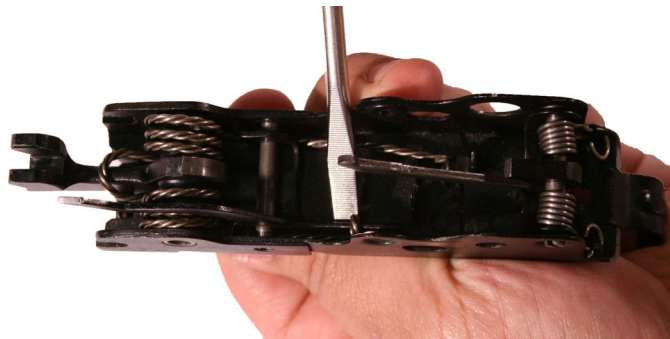

Figure 3. Lifting the Short Leg of the Main Spring off of the Safety Sear.
3. Place a finger over the hammer and pull the trigger, riding the hammer forward. Use a flathead screwdriver to lift the end of the short leg of the main spring off of the safety sear. Refer to Figure 3.